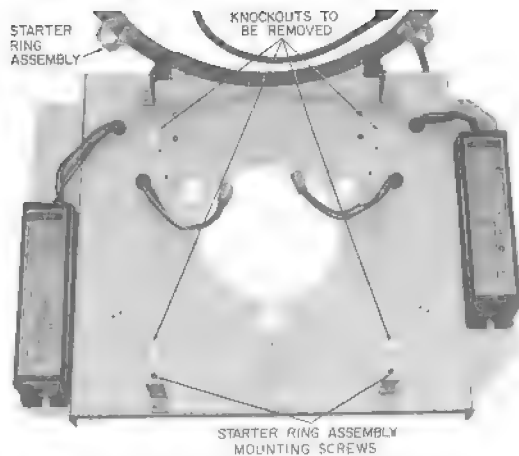

Fig. 11—K5-19207 Light Fixture With Starter Ring Assembly in Raised Position
- (h) Position KS-19207 light fixture in a suitable work area, loosen the two starter ring assembly mounting screws, and raise the starter ring assembly as shown (Fig. 11)
(i) Remove the knockouts (Fig. 11) as shown in Fig. 12.